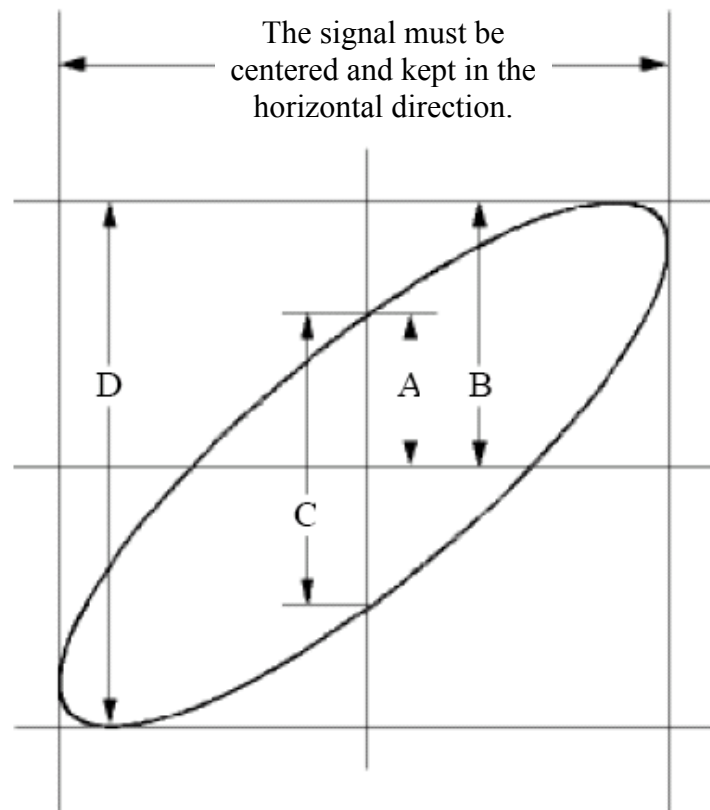

Fig.6-6 Lissajous Graph
- (7) Turn the **VOLTS/DIV** and **VERTICAL POSITION** knobs, optimizing the waveform.
- (8) With the elliptical oscillogram method adopted, observe and calculate the phase difference (see **Fig.6-6**).